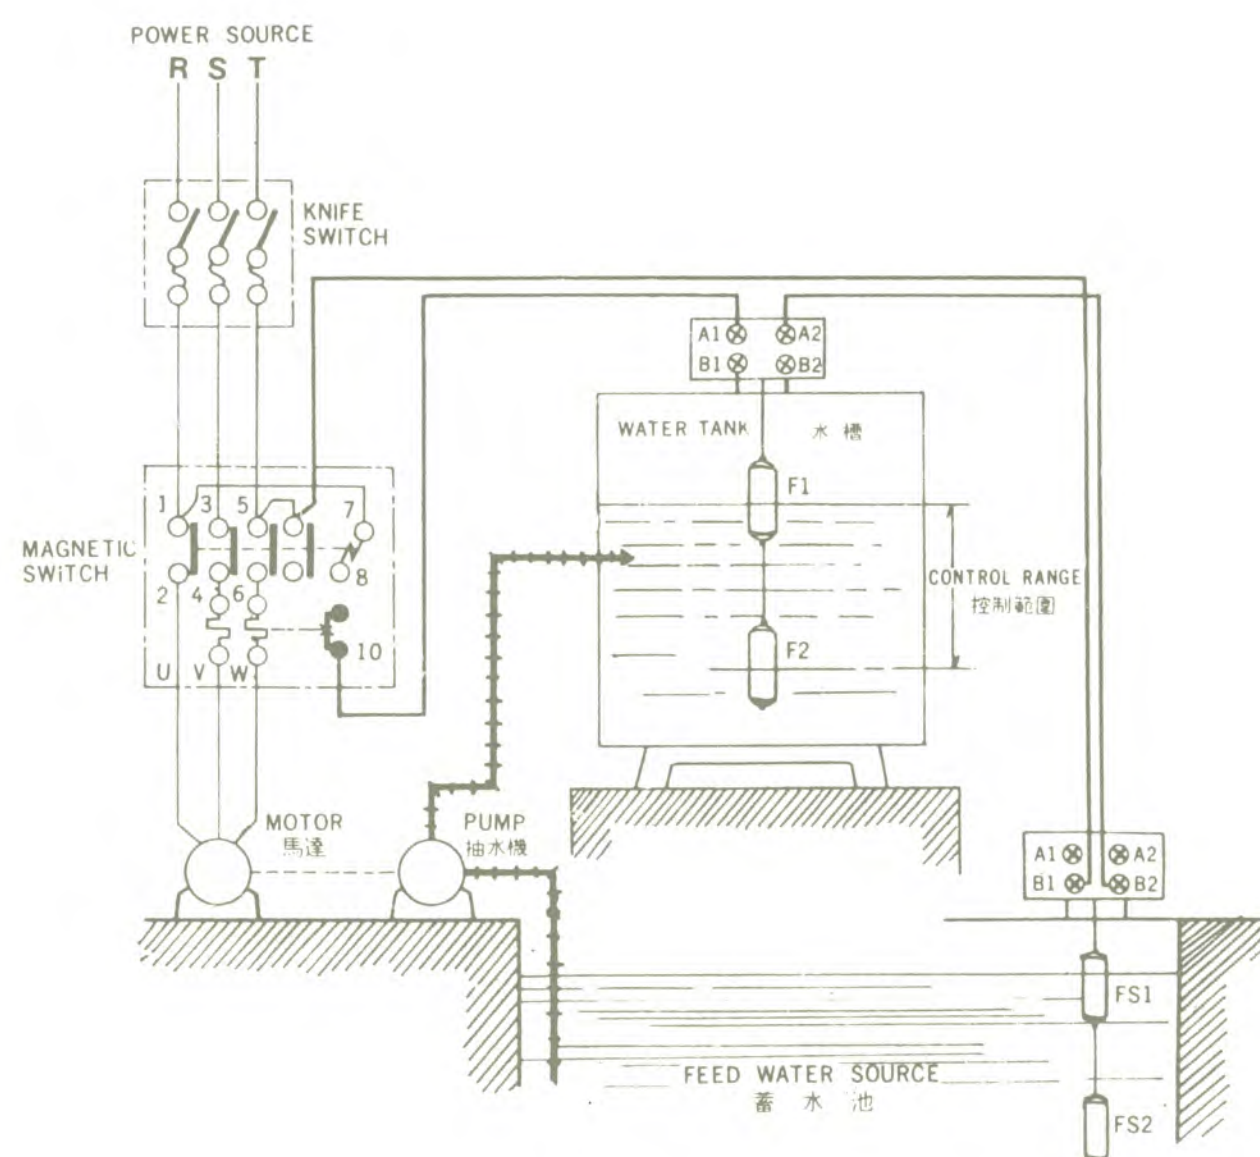

Fig 2.
- 3) For feed water with racing preventor, connect as Fig. 2.